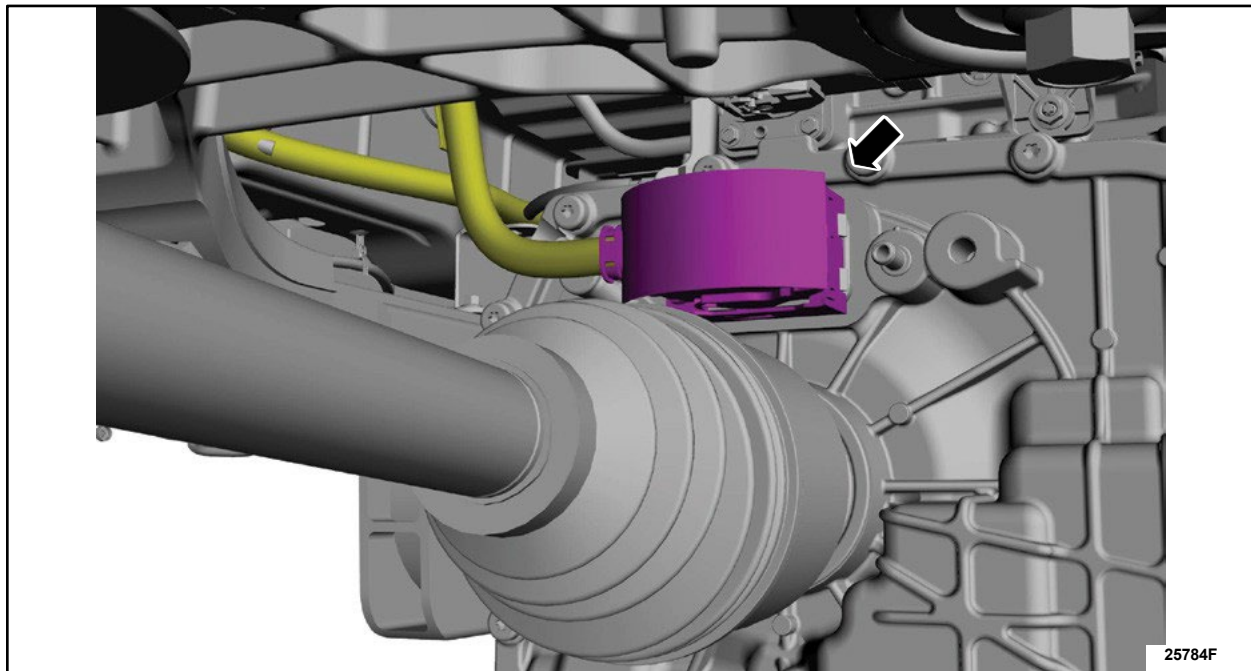

FIGURE 10
14. Clean the electrical connector with a nylon brush and compressed air. Then, release the lock lever and disconnect the electrical connector. See Figure 10.